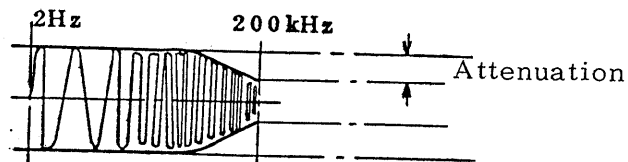

Fig. 3-4
9. If the amplifier has such a response that the amplitude at a 200kHz is reduced 6dB with respect to that at 2Hz, the amplitude at 200kHz of the waveform displayed will be approx. one half that at 2Hz as shown in Fig. 3-4